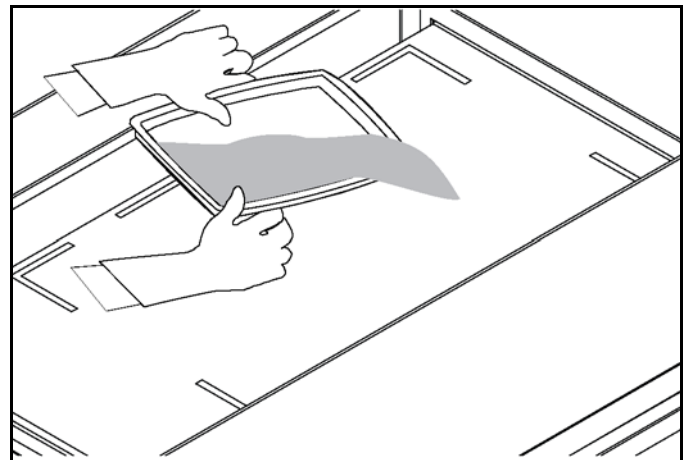

Figure-183
17. Use a separate bottle of Kay® QSR heat-activated grill & toaster cleaner and remove the cap. Evenly pour the entire bottle of cleaner onto the lower plate surface of the grill along with the remainder of the first bottle. See Figure-183.